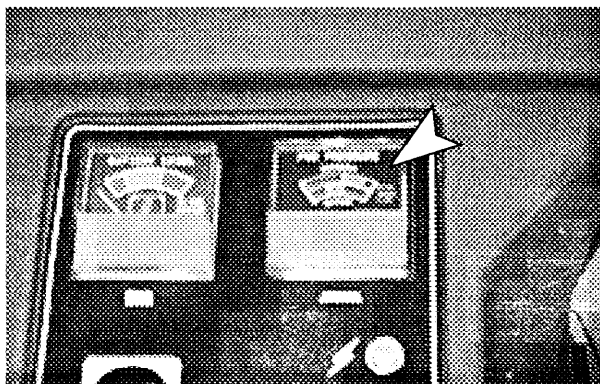

FIG. 14.
11. Once machine begins to move, check the needle position on the Pad Pressure Meter. (Figure 14)